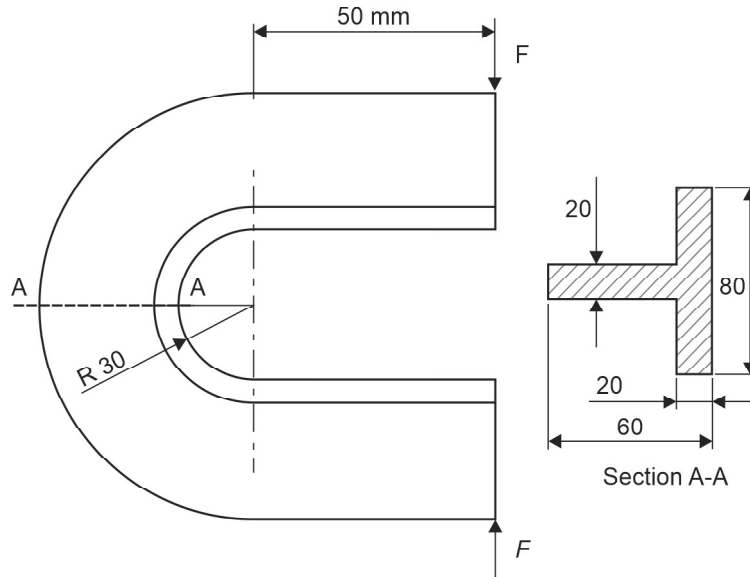

Fig. 1.27(a): Problem 21
21. A machine member has a T-shaped cross-section and is loaded as shown in Fig. 1.27(a). If the allowable compressive stress is 50 MPa, determine the largest force F which may be applied to the member safely.